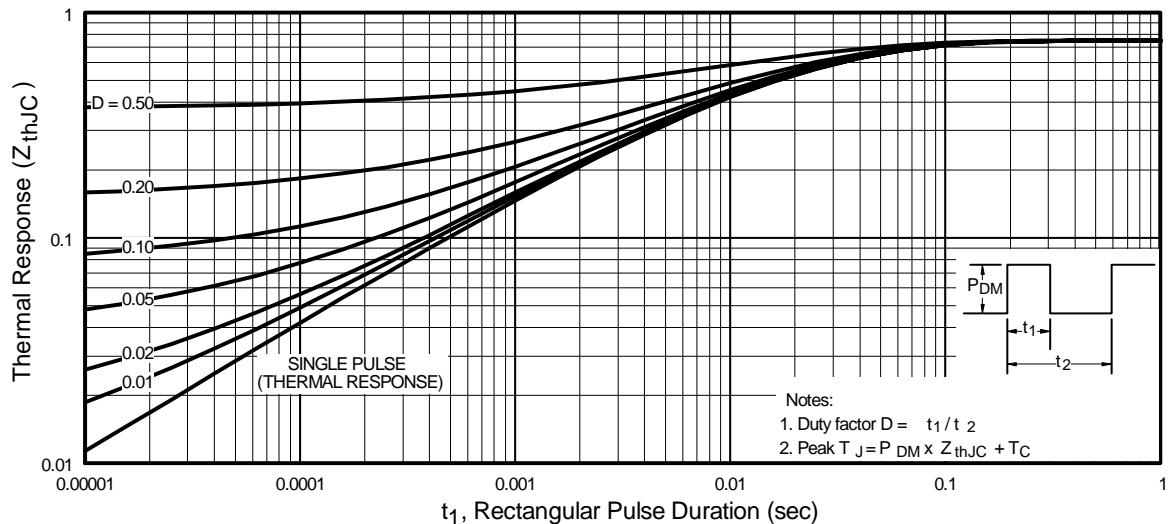

Fig 11. Maximum Effective Transient Thermal Impedance, Junction-to-Case
- ① Repetitive rating; pulse width limited by max. junction temperature. (See fig. 11)
- ② $V_{\text{DD}} = 25\text{V}$, starting $T_J = 25^\circ\text{C}$, $L = 240\mu\text{H}$